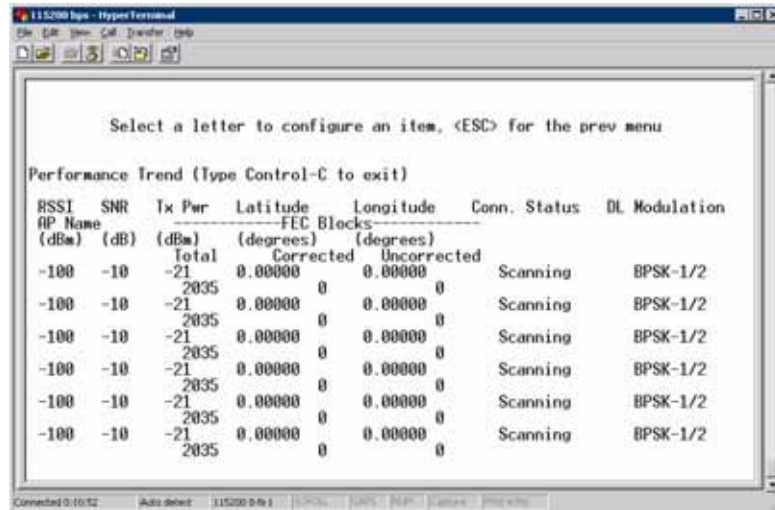

Figure 3-82. Performance Trend Screen
- **Performance Trend (Remote Only)**—Launches a continuously updated list of performance parameters (RSSI, Signal-to-Noise Ratio, Transmit Power, Latitude, Longitude, Connection Status, and FEC Blocks). (See Figure 3-82 on Page 111.)